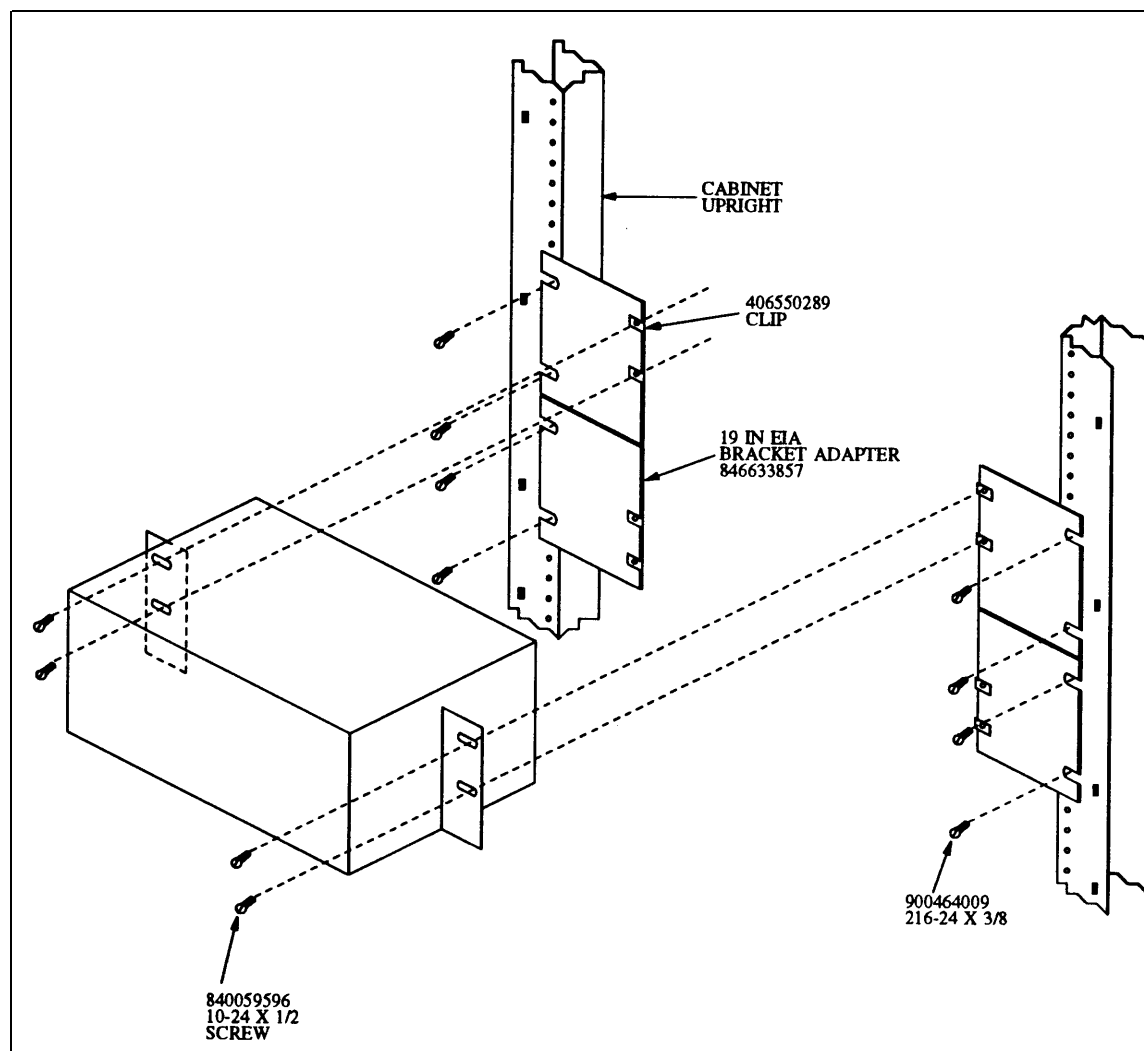

Figure 30-88. Mounting Equipment Using 19-inch EIA Bracket
To install the mounting bracket, refer to Figure 30-88 and complete the following steps:
2. Fasten the clips to the adapter bracket as shown in Figure 30-88.